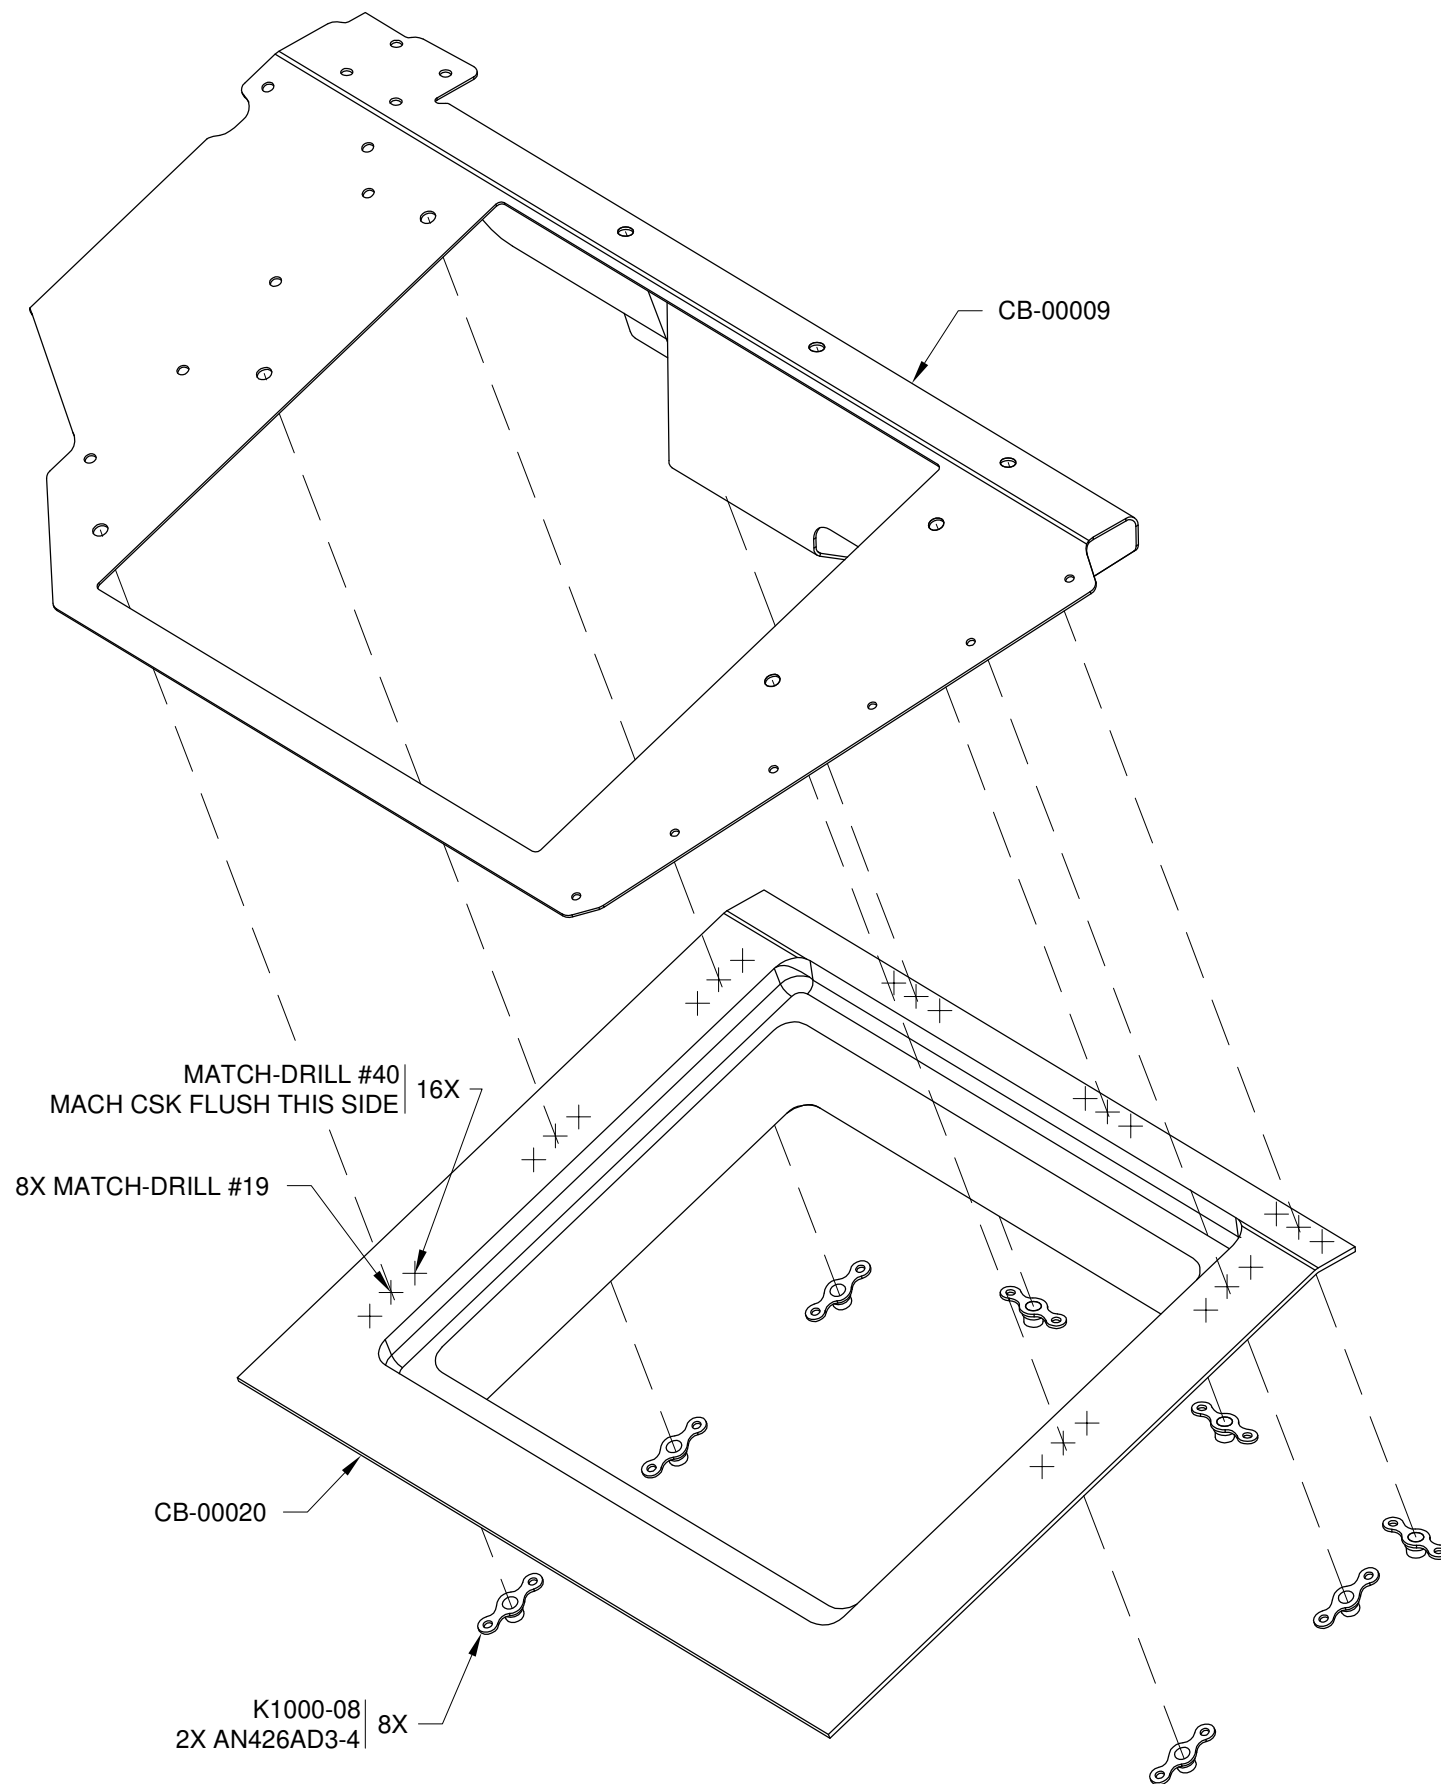

FIGURE 2: PREP AIR FILTER FRAME
Step 11: Rivet the nutplates to the air filter frame as shown in Figure 2.